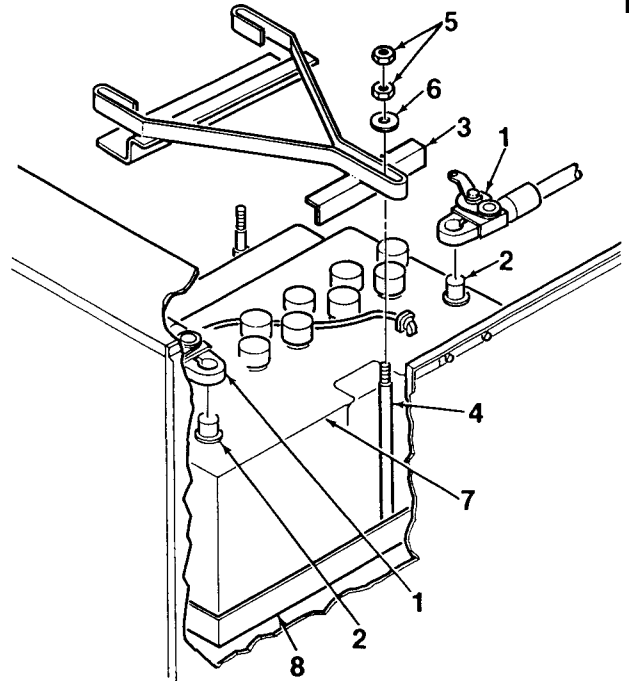

Figure 4-35. Battery
2. Disconnect negative battery cable (1) from negative (-) battery post (2). Connect cable end to enclosure ground lug
3. Disconnect positive battery cable (1, Figure 4-35) from positive (+) battery post (2). Connect cable end to enclosure ground lug.
4. Remove battery tie-down (3) from hold down rods (4) by removing six nuts (5) and three washers (6).
1. Install battery tray (8, Figure 4-35) and battery (7).
2. Install battery tie-down (3) and secure to hold down rods (4) using six nuts (5) and three washers (6).